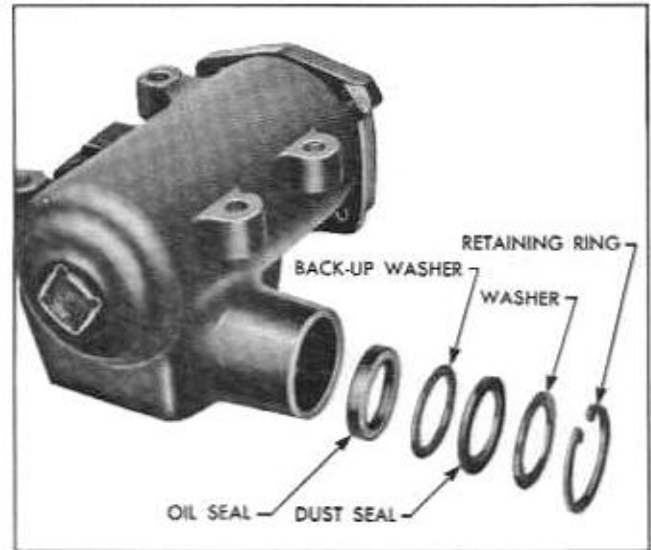

Fig. 9-37 Pitman Shaft Oil Seal—Exploded View
1. Remove pitman shaft seal retaining ring using snap ring pliers J-4245 (Fig. 9-37).